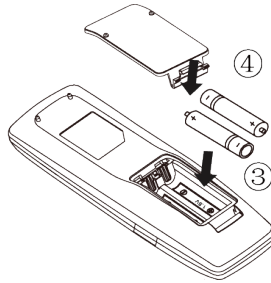

Fig.23
(3) Place two 7# (AAA 1.5V) dry batteries, and make sure the position of “+” polar and “-” polar is correct (as shown in Fig 23③).
(4) Reinstall the cover (as shown in Fig 23④).